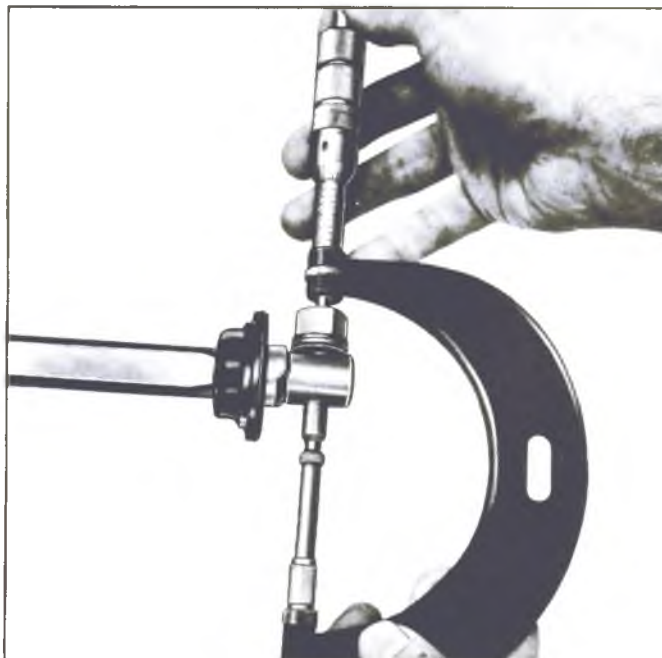

Fig. 45—Checking Coupling Pin Centering
3. Check centering of pin (fig. 45).